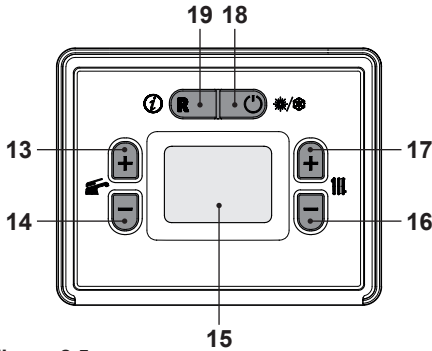

Figure 2.5
- Press the 18 button until the symbol  appears on the display Figure 2.5.
The heating delivery hot water temperature can be adjusted using the 16 (decrease) and 17 (increase) buttons (Figure 2.5) from a minimum of approx. 28°C to a maximum of approx. 55°C or from a minimum of approx. 50°C to a maximum of approx. 80°C (see "Selecting the heating temperature set" on page 47). The first time one of these two buttons is pressed the "set" value is displayed; the second time it is pressed this can be changed.
If the room temperature is not comfortable, you can increase or decrease the heating system delivery temperature by  $\pm 15^{\circ}\text{C}$  using the 16 (decrease) and 17 (increase) buttons (Figure 2.5).
The domestic hot water temperature can be adjusted using the 13 (increase) and 14 (decrease) buttons (Figure 2.5) from a minimum of approx.  $35^{\circ}\text{C}$  to a maximum of approx.  $60^{\circ}\text{C}$ . The first time one of these two buttons is pressed, the "set" value is displayed. The second time it is pressed, the value can be changed.